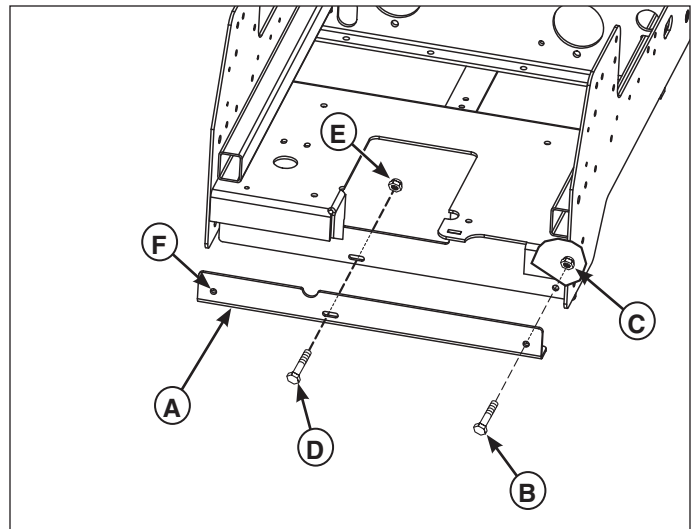

Figure 8. Install the Gearbox Right Angle Bracket
The gearbox right angle bracket (**A, Figure 8**) will first be installed and used as a drill template. Follow the procedures below:
1. Install the bracket as shown in Figure 8. Use a 3/8 X 1" bolt (**B**) and 3/8 nylon flange nut (**C**) to secure the right side of the bracket. Use a 5/16" X 1" bolt (**D**) and 5/16-18 nylon flange nut (**E**) to secure the middle of the bracket. This hardware must be tightened prior to drilling.
2. Using a .390 drill bit, drill a hole into the frame using the hole in the bracket (**F**) as a template as shown in Figure 8.